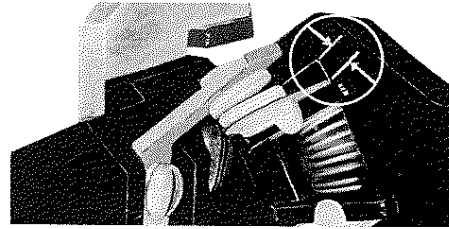

Figure 3
1. With all power removed, check that the electrical interlock (46) has the proper follow-up. With new electrical interlock contacts, the moving contacts (49) should provide at least 1/16" follow-up on each stationary contact when the contact arm reaches its limit of travel; either completely closed or completely opened (Fig. 3).